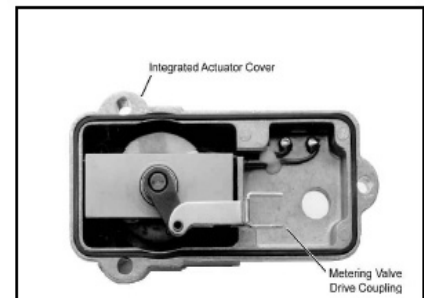

Figure 3
2. Align and hold the metering valve drive coupling parallel to the side of integrated actuator cover as shown in Figure 3.